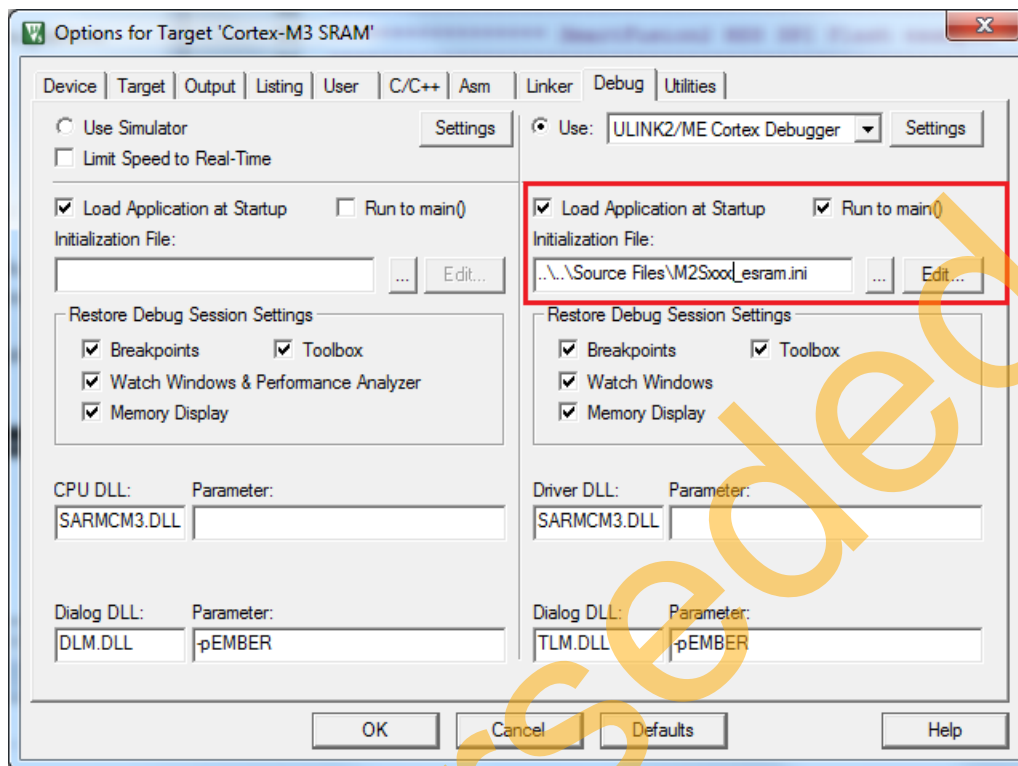

Figure 31 • Target Options - Initialization File
13. Click the **Debug** tab and browse the //sf2_spi_flash_keil_liberov11p4_tu_df/SourceFiles/ folder for initialization file provided as shown in Figure 31.